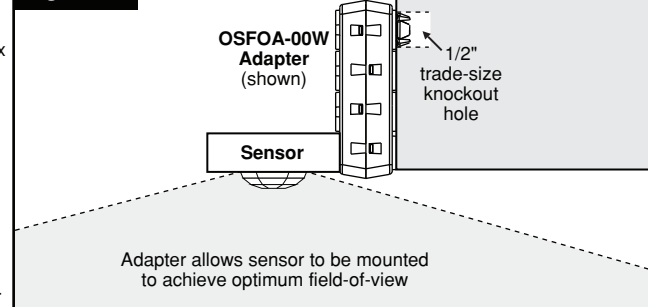

Figure 3
5. Slide the lock-nut over the wires and thread clockwise on to the threaded nipple to secure the sensor firmly in place making sure the lens is orientated towards the area to be monitored (field-of-view). **TIGHTEN** to 4 ft-lbs of torque. **NEVER USE MORE THAN 5 ft-lbs of torque (refer to Figure 3)**.